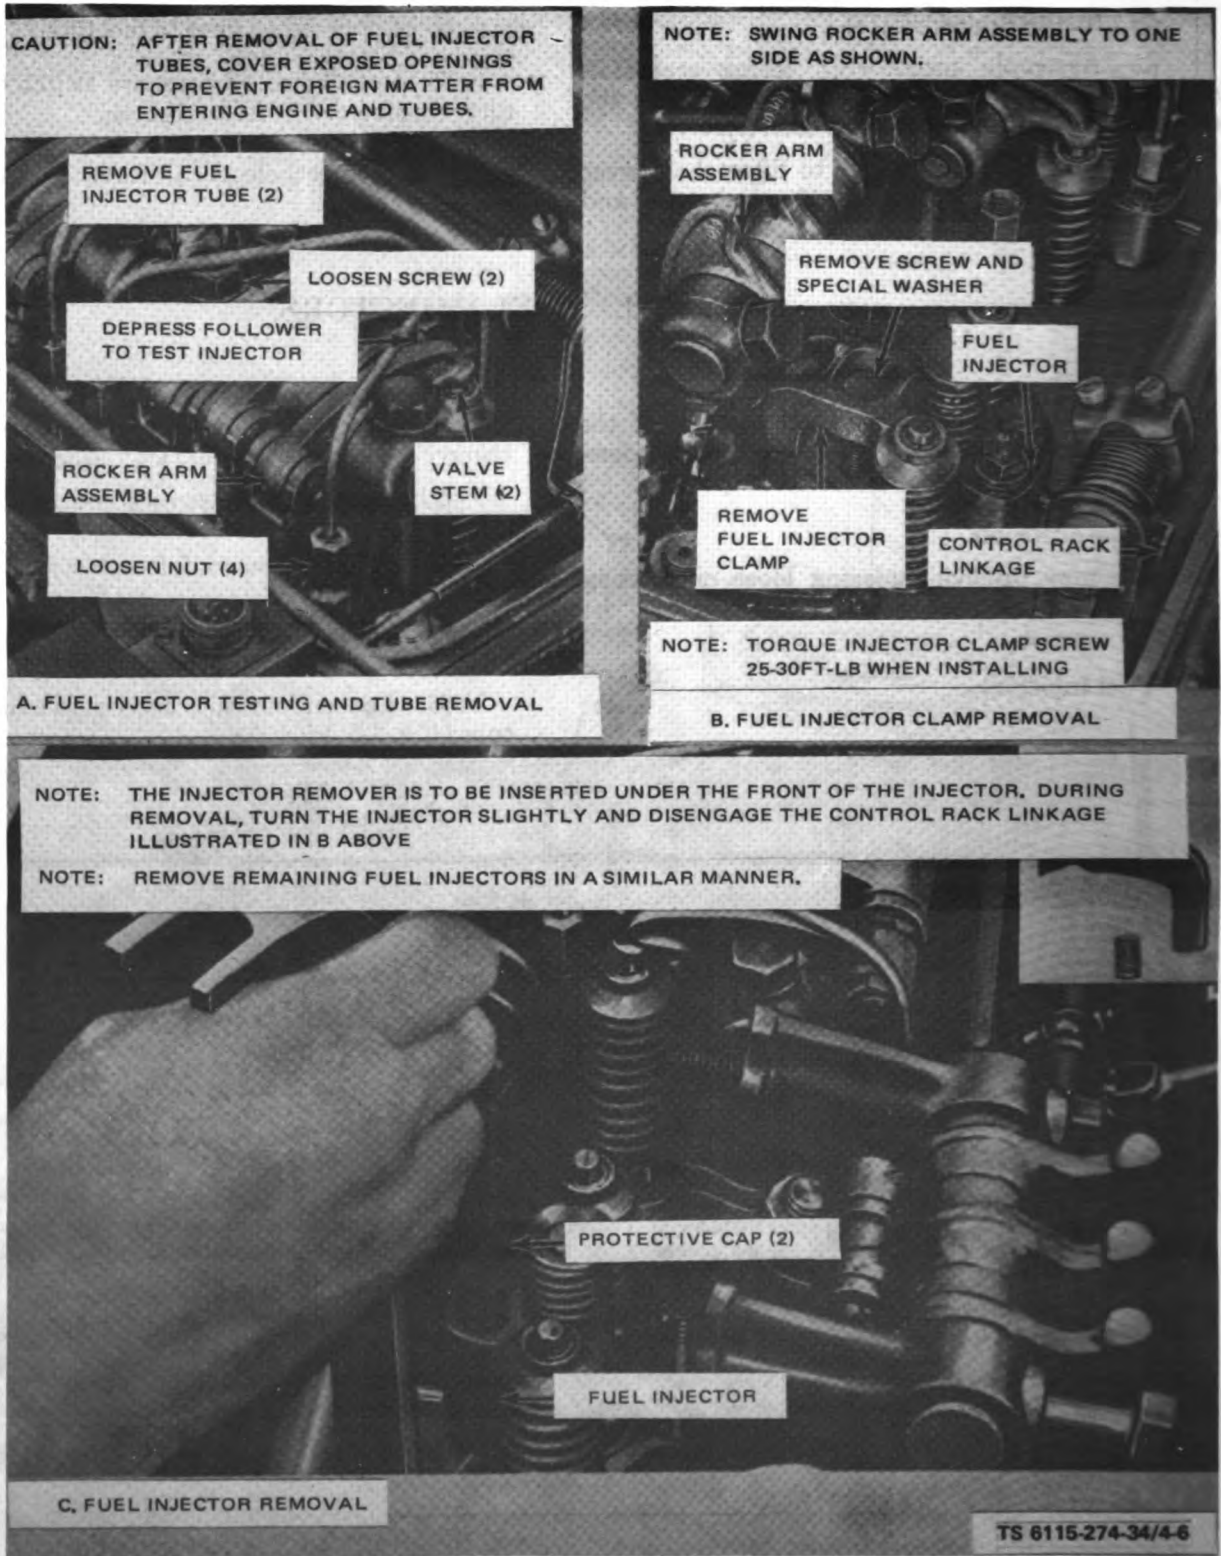
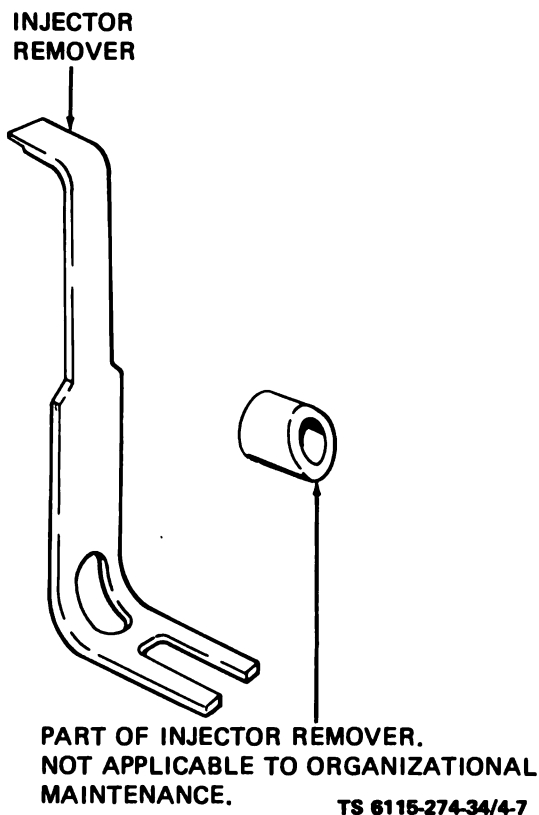

Figure 4-6. Fuel Injector, Removal and Installation
Figure 4-7. Injector Remover Tool
(5) Loosen four nuts and remove fuel injector tubes (fig. 4-6, View A).
(6) Remove screw and special washer and remove fuel injector clamp (fig. 4-6, View B).
(7) Using the injector remover (fig. 4-7), remove the fuel injector (fig. 4-6, View C).
(1) Install fuel injectors (fig. 4-6, View C) using injector tool (fig. 4-7).
(2) Install fuel injector clamps (fig. 4-6, View B) with screws and special washers.
(3) Install fuel injector tube (fig. 4-6, View A) and tighten nuts.